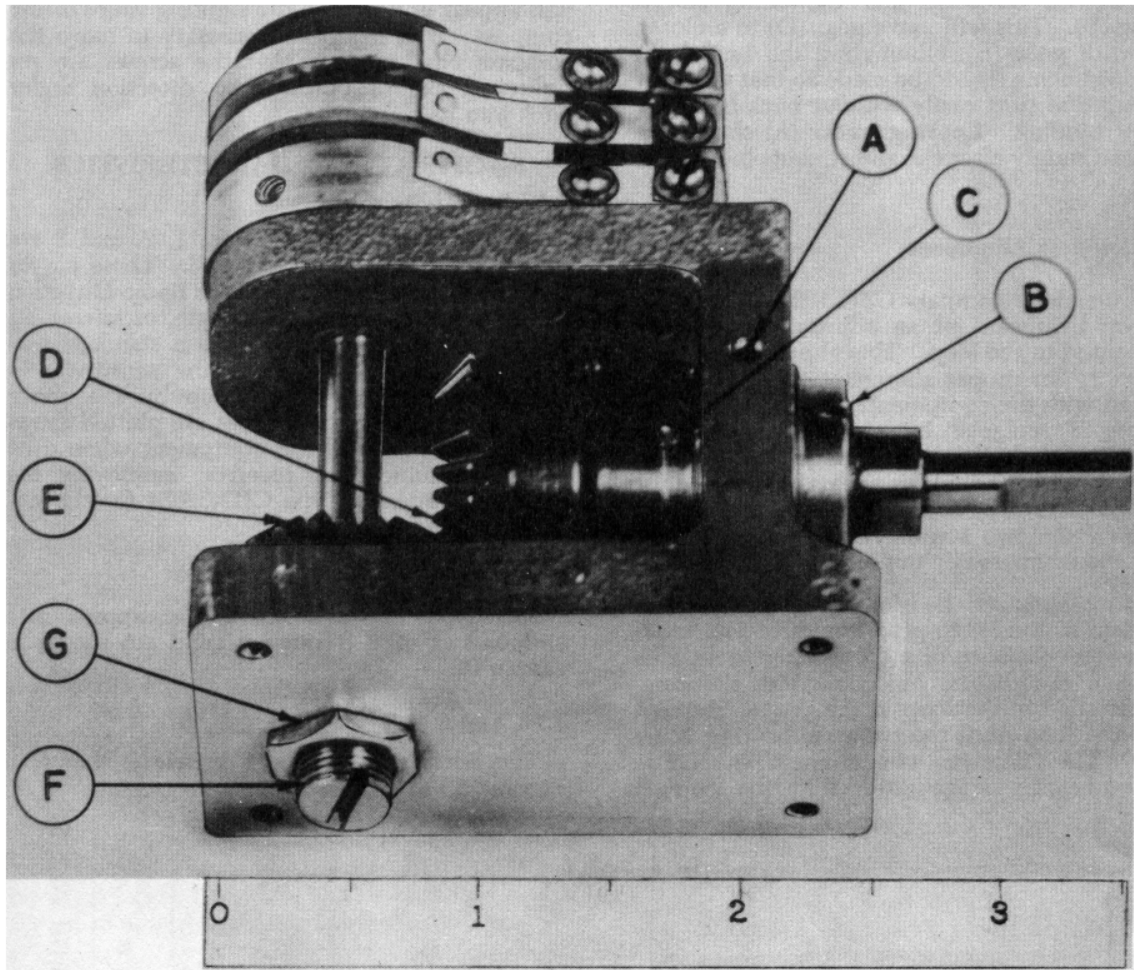

Figure 3, TYPE CIA-46174-A RADIO RECEIVER, LOOP DRIVE ASSEMBLY
of the drive shaft, it may be corrected as follows, referring to Fig. 3. If slipping of the drive shaft occurs, it is due to too loose an adjustment of sleeve bearings (B) and (C). To correct this, loosen the locking screw (A) and take up slightly in a clockwise direction on sleeve bearing (C) until the loop drive knob produces rotation of the loop without slipping or binding, then tighten locking screw (A) again and the trouble should be corrected. If back-lash should develop between gears (D) and (E), this may be corrected by loosening locking screw (A), then loosening sleeve bearing (C) slightly by rotating in a counter clockwise direction and tightening sleeve bearing (B). This will move gear (D) to a closer mesh with gear (E), eliminating the back-lash. The adjustments should be made so that the loop and loop dial turn easily without back-lash and without binding. Locking screw (A) should be tightened snugly after the adjustments have been made.